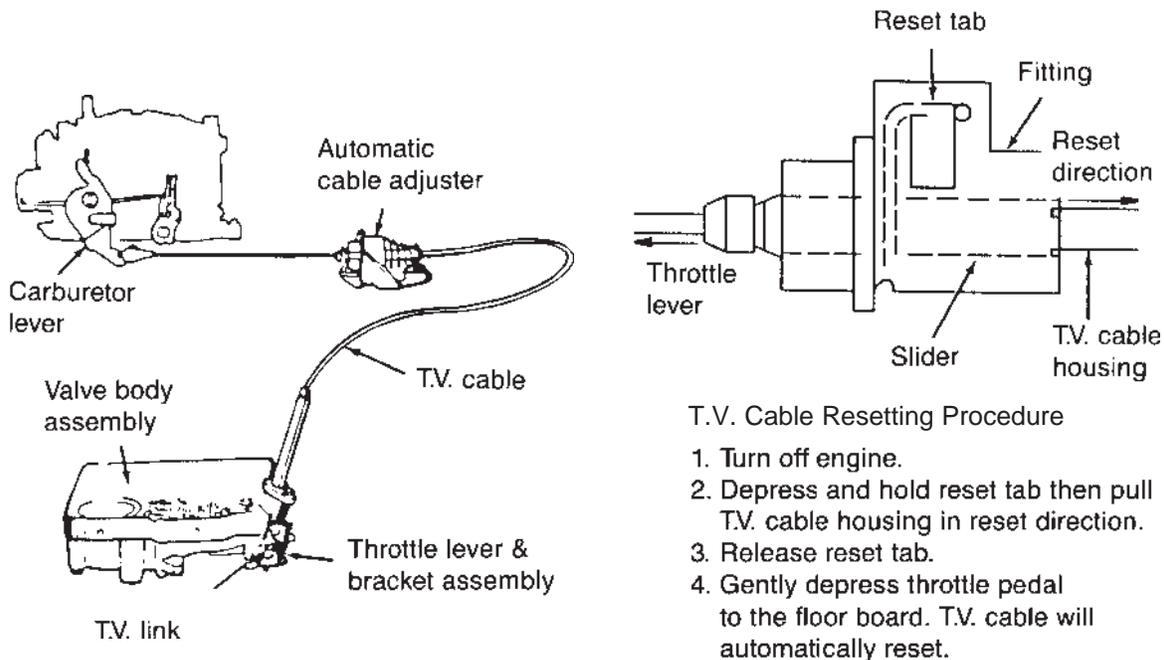

Fig. 11. T.V. Cable Adjustment Procedure.
**STEP 22.** You must reset the TV cable, See Fig. 11 for the correct procedure. Failure to reset the TV cable will result in poor shift quality and, or transmission failure.
Set the T.V. cable (See Fig. 11) With the brakes applied, take the line pressure readings at the selector lever position and engine R.P.M. specified in the chart.